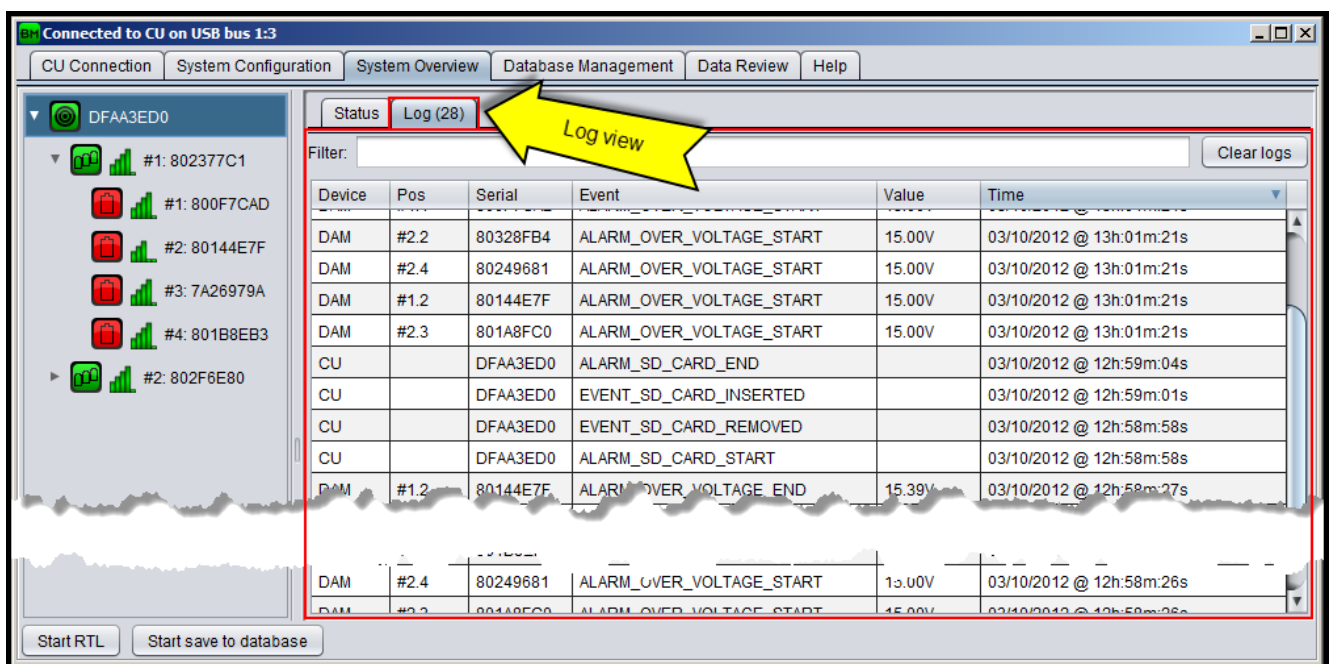

Figure 42: System overview log tab
- ▶ **Log view:** Shows the events and alarms history (see §9 for events and alarm description) for each device level (system, string, battery) since the application connection to the CU as shown on Figure 42.